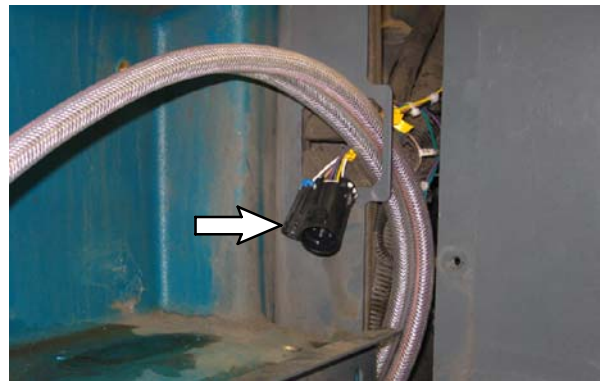

FIG. 14
53. Route *ec-H20* harness *ec-H20* assembly leads into the the operator compartment. Refer to Fig. 14.